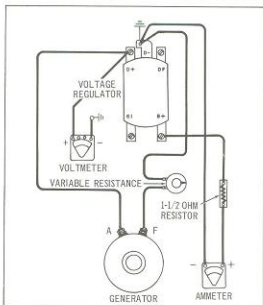

Figure 5I-7.
3. With the regulator cover in place and the regulator at operating temperature, increase the engine speed to approximately 2700 RPM (45 MPH road speed) and read the voltmeter. If the voltmeter reading falls within the limits given in Fig. 5I-1, it indicates that the voltage regulator is operating properly.
If the voltmeter reading does not fall within the limits given in Fig. 5I-1, the voltage regulator must be replaced or adjusted according to manufacturer's Service Bulletin.
#### A. TESTING GENERATING SYSTEM (FIG. 5I-7)
#### B. TESTING CUTOUT RELAY UNIT CLOSING VOLTAGE - SAME CONNECTIONS ARE USED AS IN TEST A (FIG. 5I-7)
3. Slowly turn field control toward "Direct" position. As the resistance is decreased, the voltmeter reading will increase. Note the highest reading on the voltmeter before the pointer "kicks". This will be the relay closing voltage. Repeat operation a few times, each time returning the field control resistor to "Open" position. If the closing voltage is not within specifications, (see Fig. 5I-1) replace regulator.
#### C. TESTING VOLTAGE CONTROL UNIT SETTING. (FIG. 5I-8)